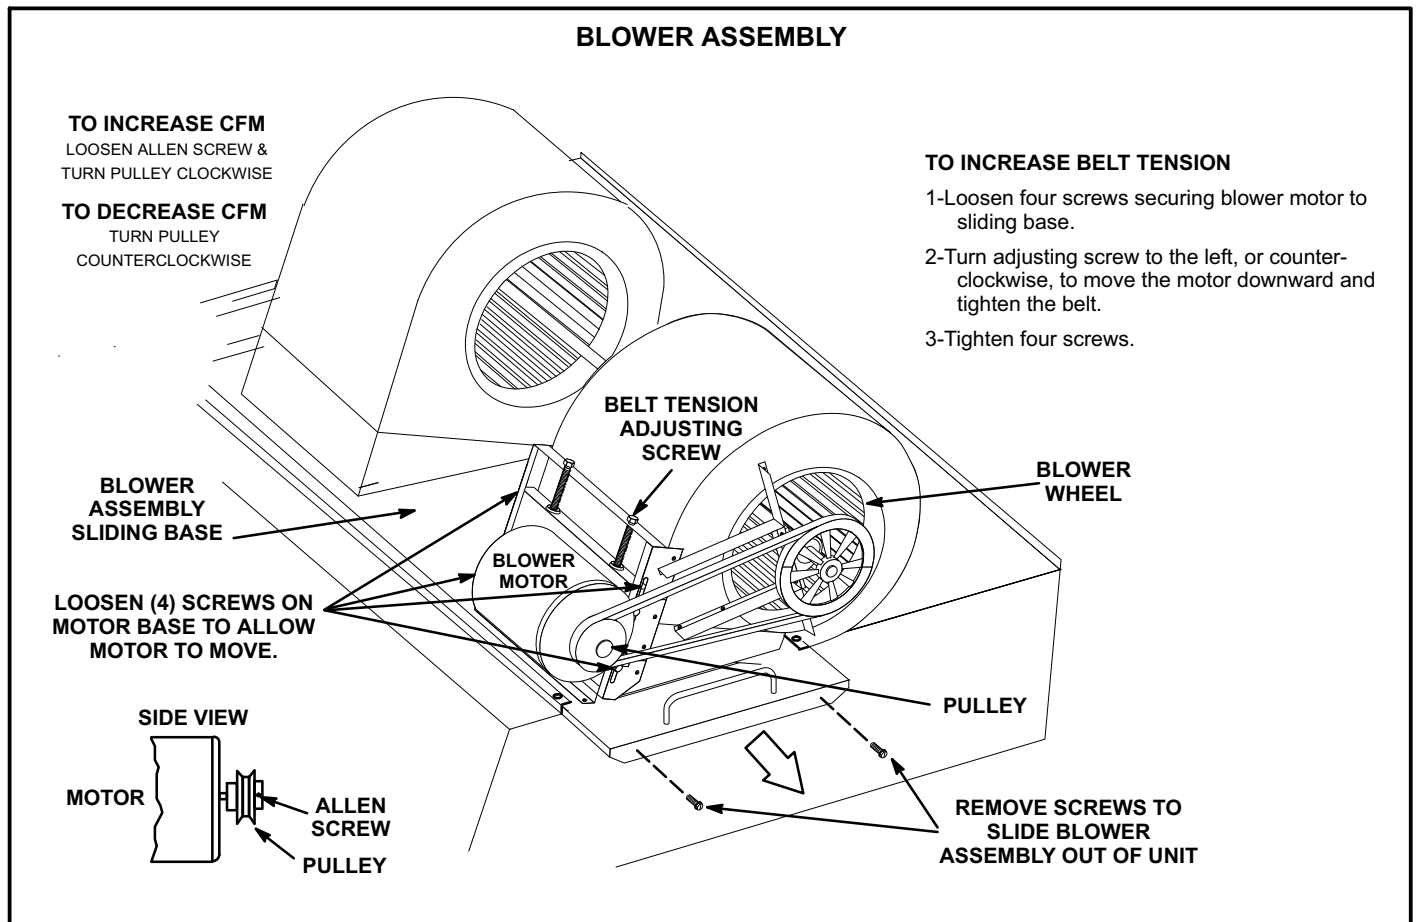

FIGURE 9
The blower compartment in KGB180S-300S units is located between the evaporator coil and the compressor / control section on the opposite side of the condenser coil. The blower assembly is accessed by removing the screws on either side of the sliding base. The base pulls out as shown in figure 9.
The blower assembly is secured to a sliding base which allows the entire assembly to be pulled out of the unit. See figure 9.
- 5- The RPM can be adjusted at the motor pulley. Loosen Allen screw and turn adjustable pulley clockwise to increase RPM. Turn counterclockwise to decrease RPM. See figure 9.
- 1- Loosen four bolts securing motor base to mounting frame. See figure 9.